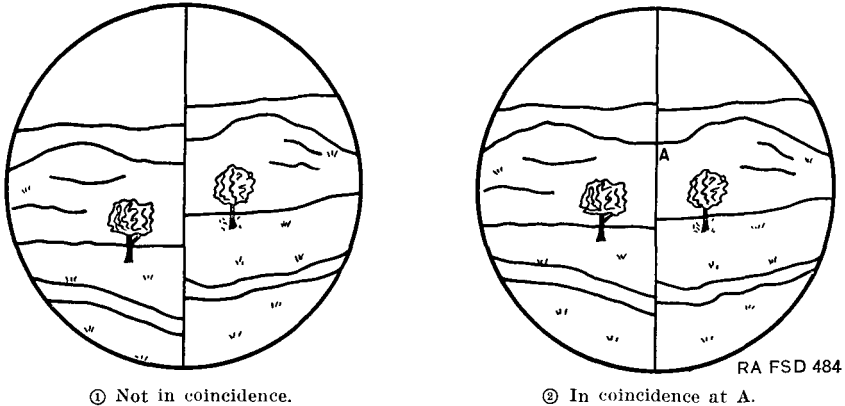

FIGURE 56.—Range finder field of view, vertical base.
(5) To measure range of horizontal objects such as roads, trenches, crests of ridges, etc., which have no prominent vertical parts, turn instrument with longitudinal axis vertical, temporarily loosening hinge clamping handle for the purpose. Images when first observed
will ordinarily not be in coincidence (fig. 56①). Turn the range knob until the image of horizontal line appears to continue across the halving line as at A in figure 56②. Temporarily lower the support clamping lever for any necessary motion in elevation (within limits of  $\pm 10^\circ$ ).